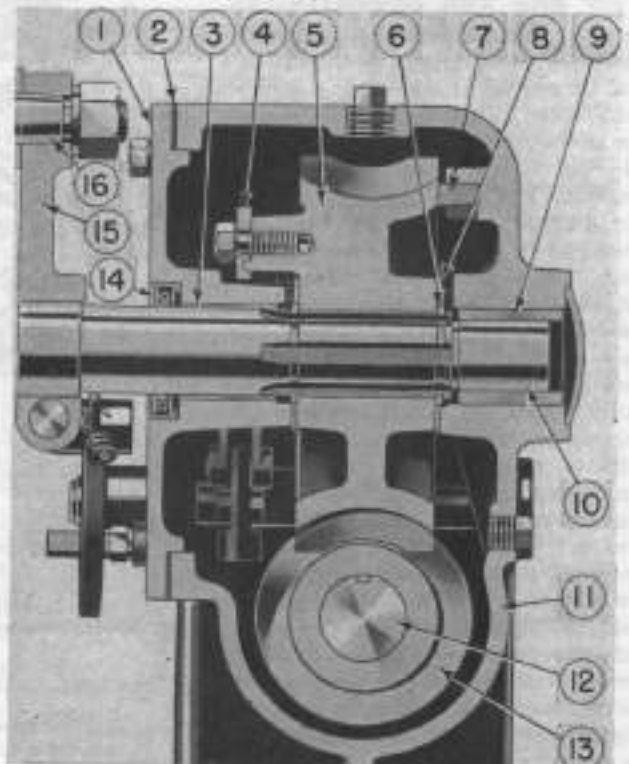

Fig. MH452—Power lift unit—models 20, 20K, 81 and 82.
321. R&R AND OVERHAUL. Remove power lift arm guard (F—Fig. MH452) and operator's seat assembly. Separate lift unit from adapter plate and remove unit from tractor. Remove adapter plate and shaft assembly as shown in Fig. MH450. NOTE: Check lift arm, worm wheel, shaft and release cam for assembly index punch marks. Alignment of these marks is necessary to assure reassembly of parts in correct relative position. Remove lift arm (15—Fig. MH453) from shaft (10). Disconnect external release linkage and remove foot pedal with release arms. Remove bearing carrier (1—Fig. MH451), raise worm and shaft as-